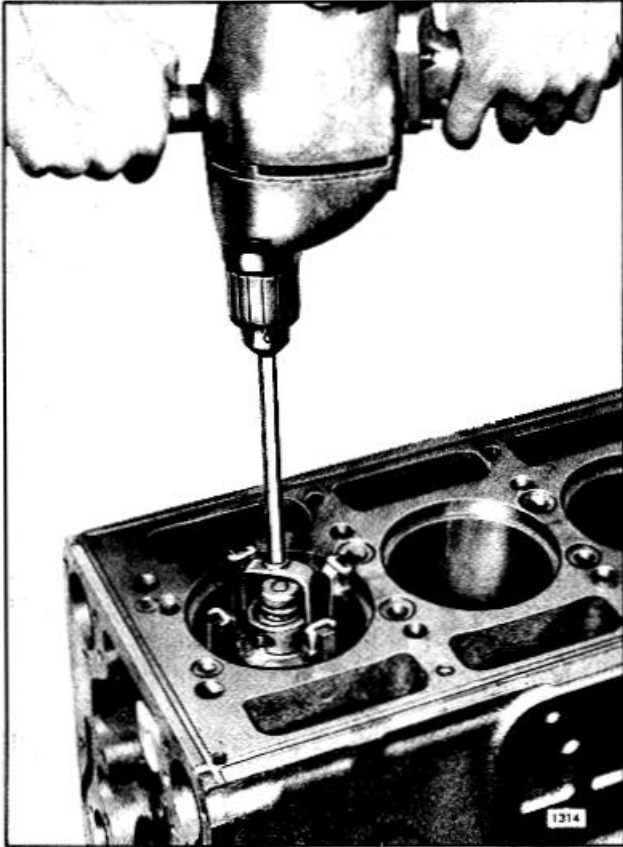

Fig. 10 - Honing Bore of Cylinder Block
- b. Insert the hone in the bore (Fig. 10) and adjust the stones snugly to the narrowest section. When correctly adjusted, the hone will not shake in the bore. but will drag freely up and down when the hone is not running.